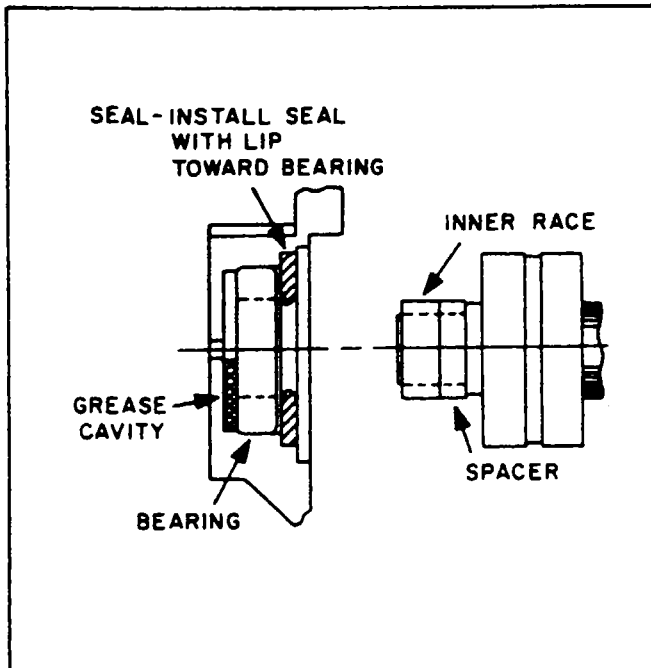

Figure 11-8. Slip Ring End Bearing Assembly
e. Install the slip ring end bearing and oil seal. Make sure the lip of the oil seal is toward the bearing. Stake the seal in place. Correct assembly of bearing, seal, inner race and spacer as shown in Figure 11-8.